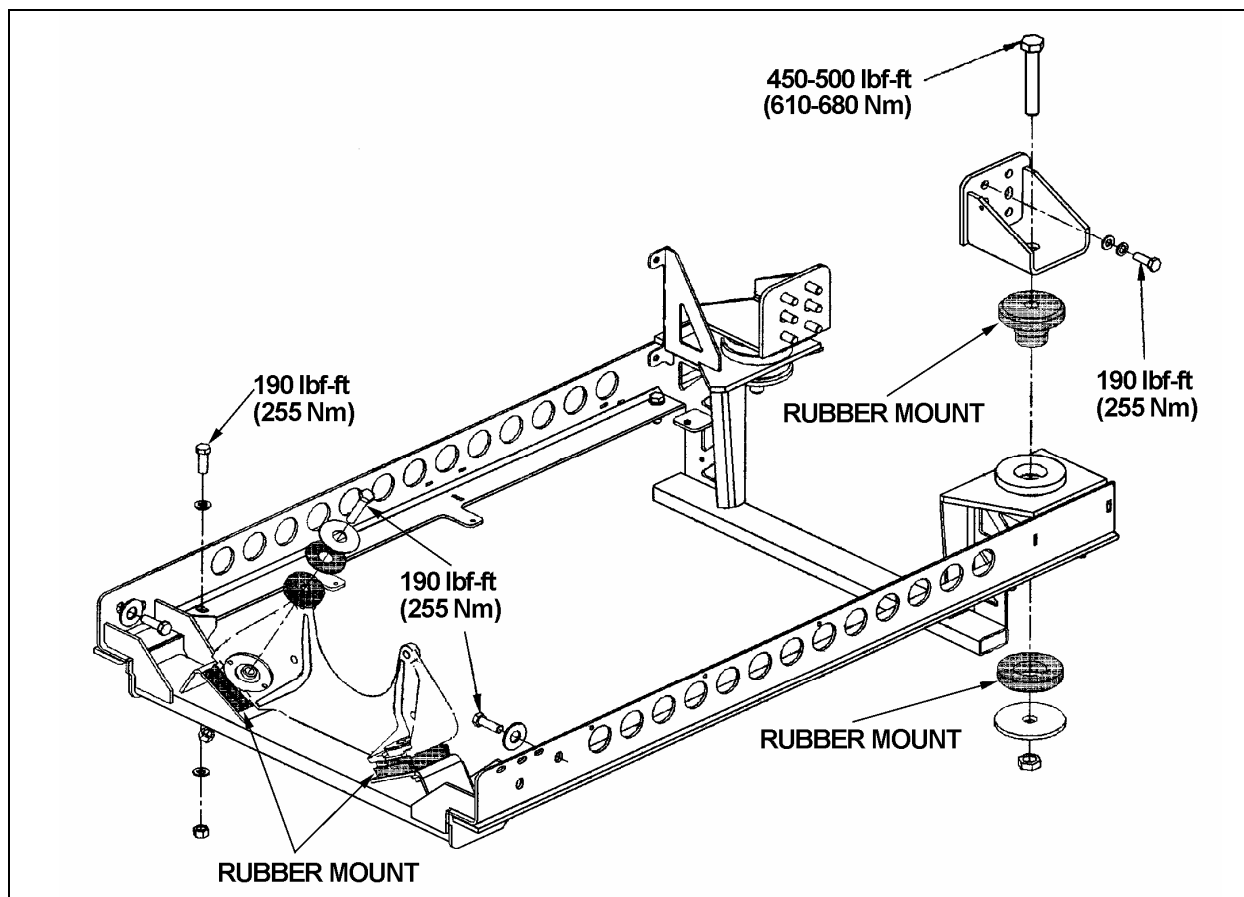

FIGURE 25: DDC SERIES 60 POWER PLANT CRADLE INSTALLATION
35. Remove the six retaining bolts, washers and nuts securing the power plant cradle to the vehicle rear subframe (Fig. 25).
Two rubber mounts are used at the front of the engine while two others are mounted on each side of the flywheel housing (Fig. 25).